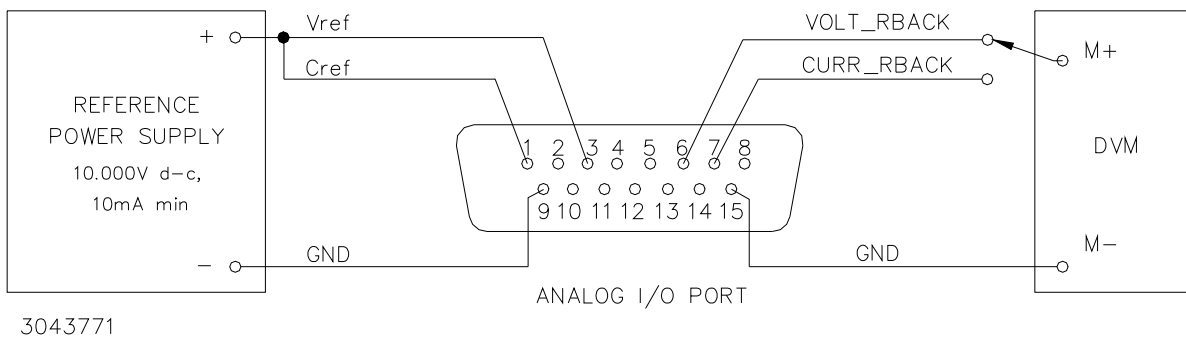

FIGURE 4-1. ANALOG PORT WIRING FOR CALIBRATION
5. Configure the mating I/O connector (provided with unit) to access the input programming signals (Vref and Cref) and output readback signals (VOLT_RBACK and CURR_RBACK) as shown in Figure 4-1. Note that the wires to Vref and Cref should be tightly twisted with the corresponding GND wire and kept as short as possible. Then connect the I/O mating connector to the Analog I/O port of the power supply.
3. Tap the **DC OUTPUT** switch to accept the value; the status display now reads **OUTV**. At the ANALOG I/O PORT J2, connect the DVM to VOLT_RBACK and GND as shown in Figure 4-1. Rotate the **VOLTAGE** control to increase or decrease the output voltage until the DVM reads as close as possible to 10V.
5. Tap the **DC OUTPUT** switch to accept the value; the status display now reads **OUTC**. At the ANALOG I/O PORT J2, connect the DVM to CURR_RBACK and GND as shown in Figure 4-1. Rotate the **CURRENT** control to increase or decrease the output voltage until the DVM reads as close as possible to 10V.
5. Configure the mating I/O connector (provided with unit) to access the input programming signals (V_{ref} and C_{ref}) and output readback signals (VOLT_RBACK and CURR_RBACK) as shown in Figure 4-1. Note that the wires to V_{ref} and C_{ref} should be tightly twisted with the corresponding GND wire and kept as short as possible. Then connect the I/O mating connector to the Analog I/O port of the power supply.
9. If password is correct, the status display on the VXI main panel reads CAL and the buttons on Calibration Screen (Figure 4-1) are enabled (highlighted). If the password is incorrect, the
4. Click the **Press to ACCEPT** button to accept the value; the status display now reads **OUTV**. At the ANALOG I/O PORT J2, connect the DVM to VOLT_RBACK and GND as shown in Figure 4-1. Click the “+” button to increase and the “-” button to decrease the output voltage until the DVM reads as close as possible to 10V.
5. Click the **Press to ACCEPT** button to accept the value; the status display now reads **OUTC**. At the ANALOG I/O PORT J2, connect the DVM to CURR_RBACK and GND as shown in Figure 4-1. Click the “+” button to increase and the “-” to decrease the output current until the DVM reads as close as possible to 10V.